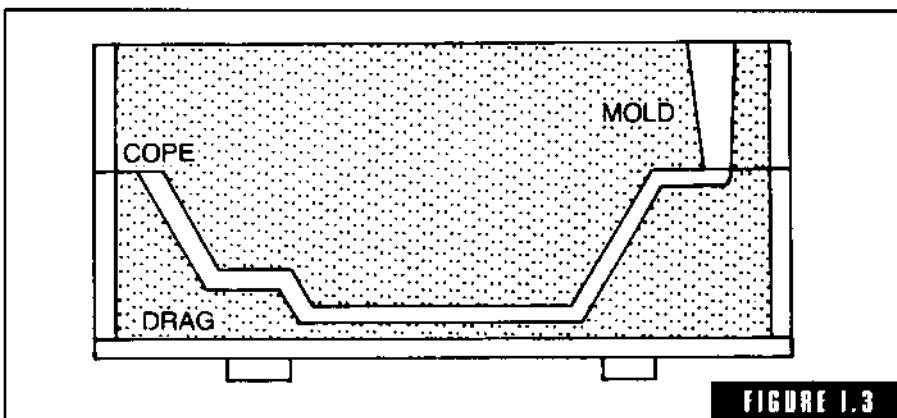

FIGURE I.3
**irregular parting** A parting plane between the cope and drag that lies on more than one plane (Fig. I-3).